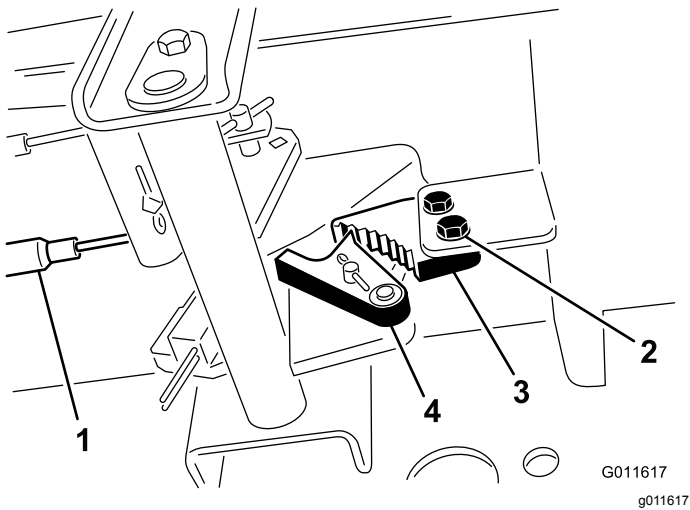

Figure 44
1. Loosen the 2 screws securing the parking-brake pawl to the frame (Figure 44).
2. Press the parking brake pedal forward until the brake detent completely engages on the brake pawl (Figure 44).